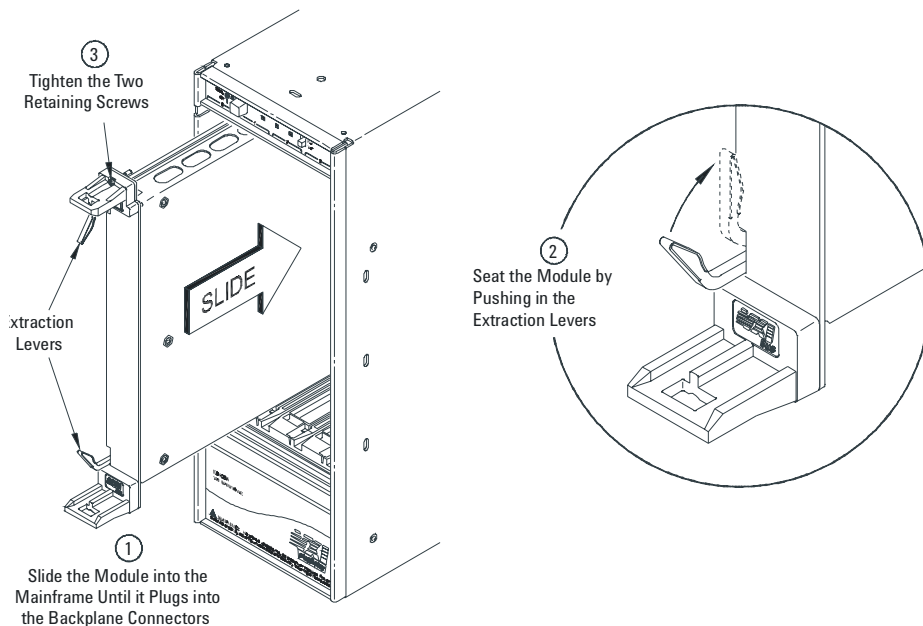

Figure 3-7
2. Set the mainframe's power switch to off (0).
5. Install the module into the mainframe as instructed in steps 1, 2, and 3 of Figure 3-7. (Note: the E2730 module does not have insertion/extraction levers.)